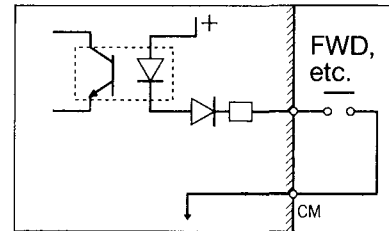

Fig. 6-2-1
The circuit configuration is shown in Fig. 6-2-1. If you use a contactor for input, use a contactor of high reliability which does not have any closing defects, for example the HH54PW control relay manufactured by Fuji Electric. Items (2) and (3) below have been wired at the time of shipment for easy operation.